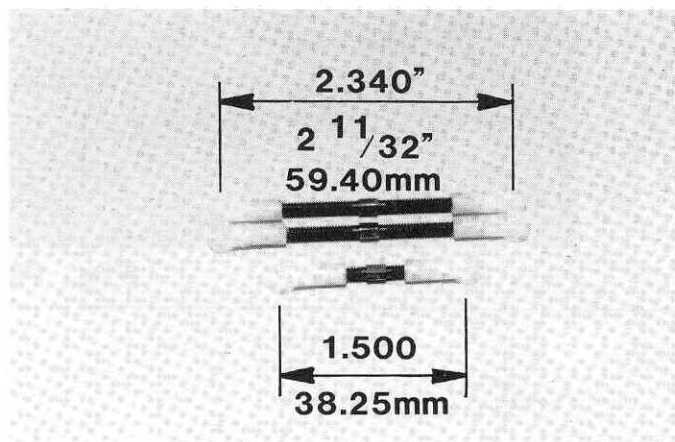

Fig. 23
- ☐ **Fig. 23** Take the two long and one short turnbuckles and screw on the six plastic ball cups to the lengths shown.